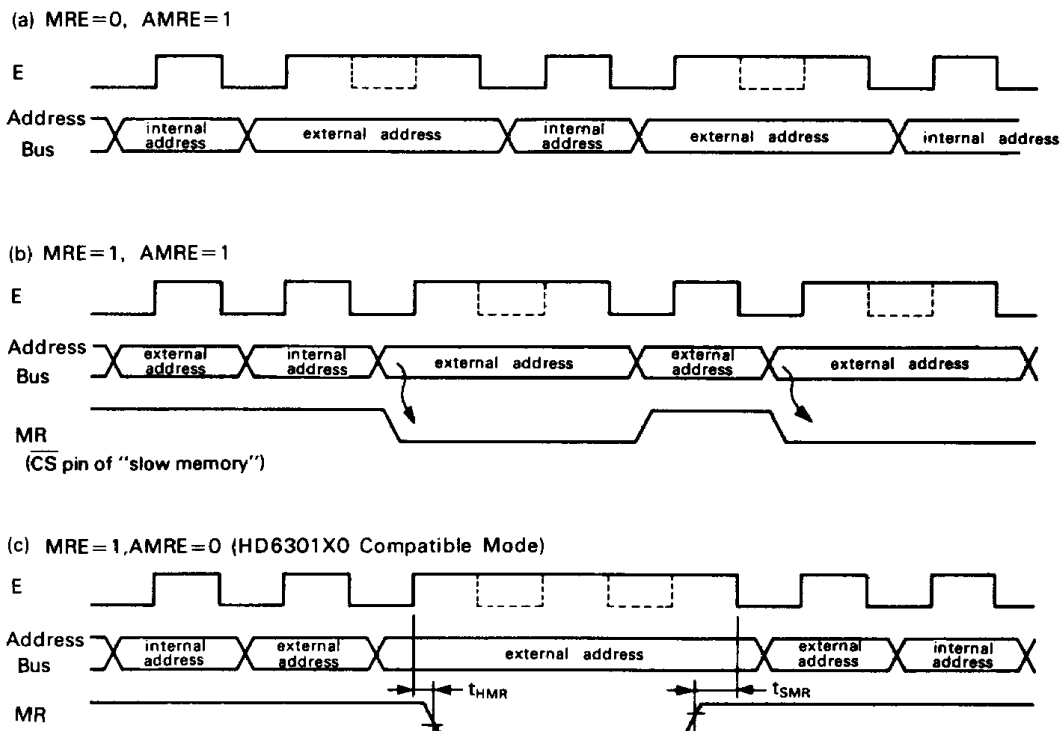

Figure 17 Memory Ready Timing
When the bit is set and the CPU accesses the external address, "memory ready" operates automatically and stretches the E clock's "High" duration for one system clock. When MRE bit of bit 2 is cleared and when the CPU accesses the external address space, the function operates. When MRE bit is set and then the CPU accesses the external address space with P₅₂(MR) pin in "low", "memory ready" operates automatically. In Mode 3, regardless of the bit value, the "auto memory ready" function is inhibited. (See Table 3 and Fig. 17.)